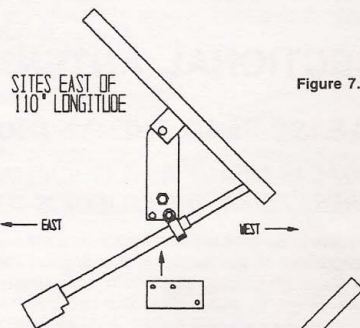

Figure 7.
**STEP 7** Installation of the #7 actuator bar is recommended on Antennas for areas within 10° East or West of the 110° longitude line to give the actuator a better mechanical advantage. Installation of the #7 actuator bar outside this area is not required for proper system operation. The proper actuator bar positioning must be obtained so that the antenna will track the entire arc of satellites. To find that position, you must first locate your latitude and longitude on a map. Refer to Chart 1. Add the actuator bar as per Figure 7 or 8, which shows the proper alignment for your location. Secure the actuator bar with (2) 1/2"x1 1/2" bolts and locknuts. Now you may install your actuator or hand crank. **TIGHTEN ALL BOLTS WITH A WRENCH.** The #7 actuator bar is not supplied with the 6 or 7 Plus. Attach the actuator directly to the correct side of the elevation U-bracket as shown.